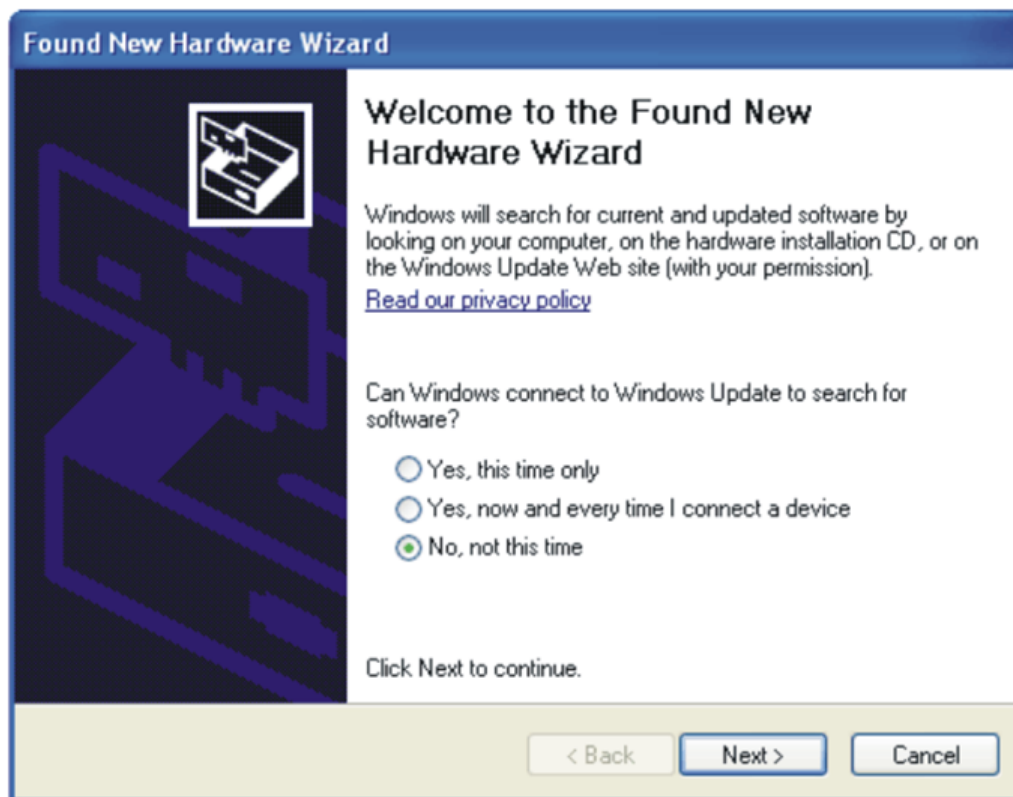

Figure 7. NI-VISA Driver Installation
2. The computer should recognize the new hardware and begin installing the drivers for the hardware. Figure 7 is provided for reference to show the installation steps. To simplify installation, accept the default settings.